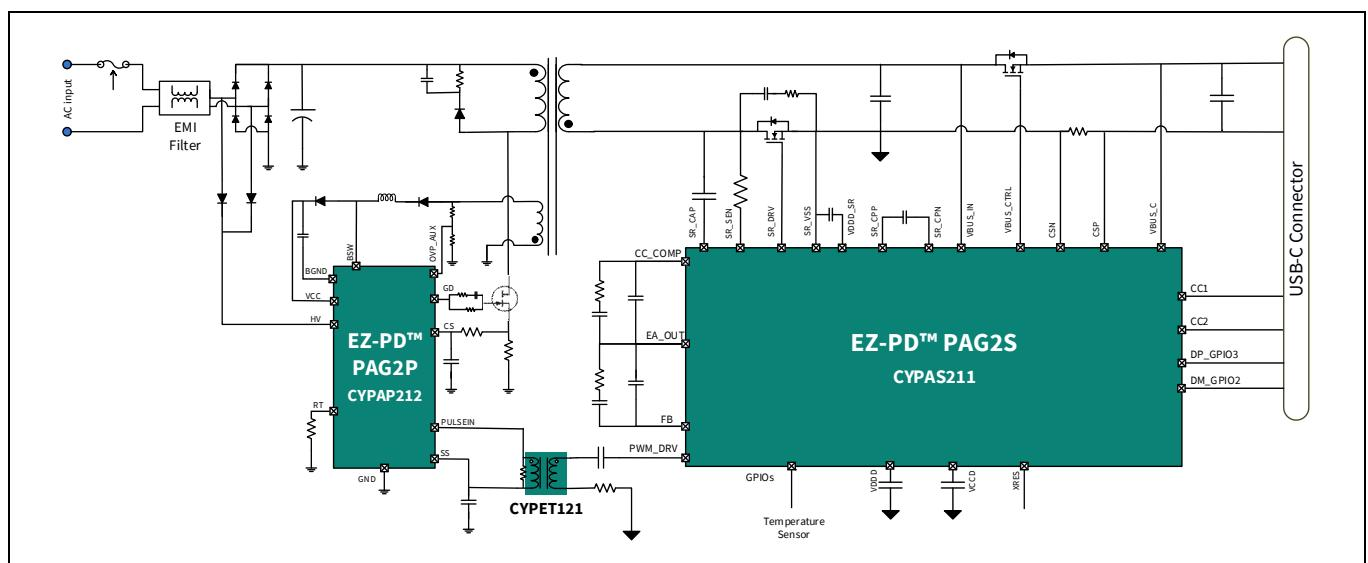

Figure 1 USB PD adapter with secondary-side flyback control
Figure 1 shows a power adapter application diagram implementing a secondary-side controlled synchronous flyback system. In this system, EZ-PD™ PAG2S-QZ modulates the pulse width of the primary MOSFET in voltage control mode. PAG2S-QZ engages the internal error amplifier (EA) and a programmable ramp generator to determine the pulse width of the PWM. This PWM signal is transferred from the secondary to the primary side through a pulse edge transformer. In this topology, PAG2S-QZ integrates three key features: secondary-side PWM control, charging protocol control, and fault protection. In the following example, EZ-PD™ PAG2P is used as the primary controller with PAG2S-QZ.
PAG2S-QZ integrates two error amplifier blocks which handle secondary-output sensing and regulation for both constant voltage and constant current modes of operation. The error-amplifier output feeds into the internal analog PWM block. The negative input of the error amplifier is the feedback (FB) pin and the positive input is an internal voltage reference. Based on the desired VBUS output, the voltage at the FB pin will be changed using internal current source/sink IDACs. An external compensation network is required between the FB and EA_OUT pins, as shown in the application diagram (see Figure 1). Constant current operation makes use of an internal LSCSA, the output of which feeds into an independent error amplifier as shown in functional block diagram. Constant current mode regulation requires an external compensation network between CC_COMP_GPIOX and EA_OUT as shown in Figure 1.